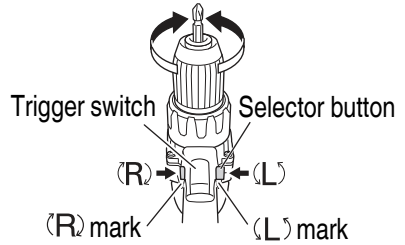

Fig. 8
The bit rotates clockwise (viewed from the rear side) by pushing the R-side of the selector button. The L-side of the selector button is pushed to turn the bit counterclockwise. (See **Fig. 8**) (The (L) and (R) marks are provided on the push button.)